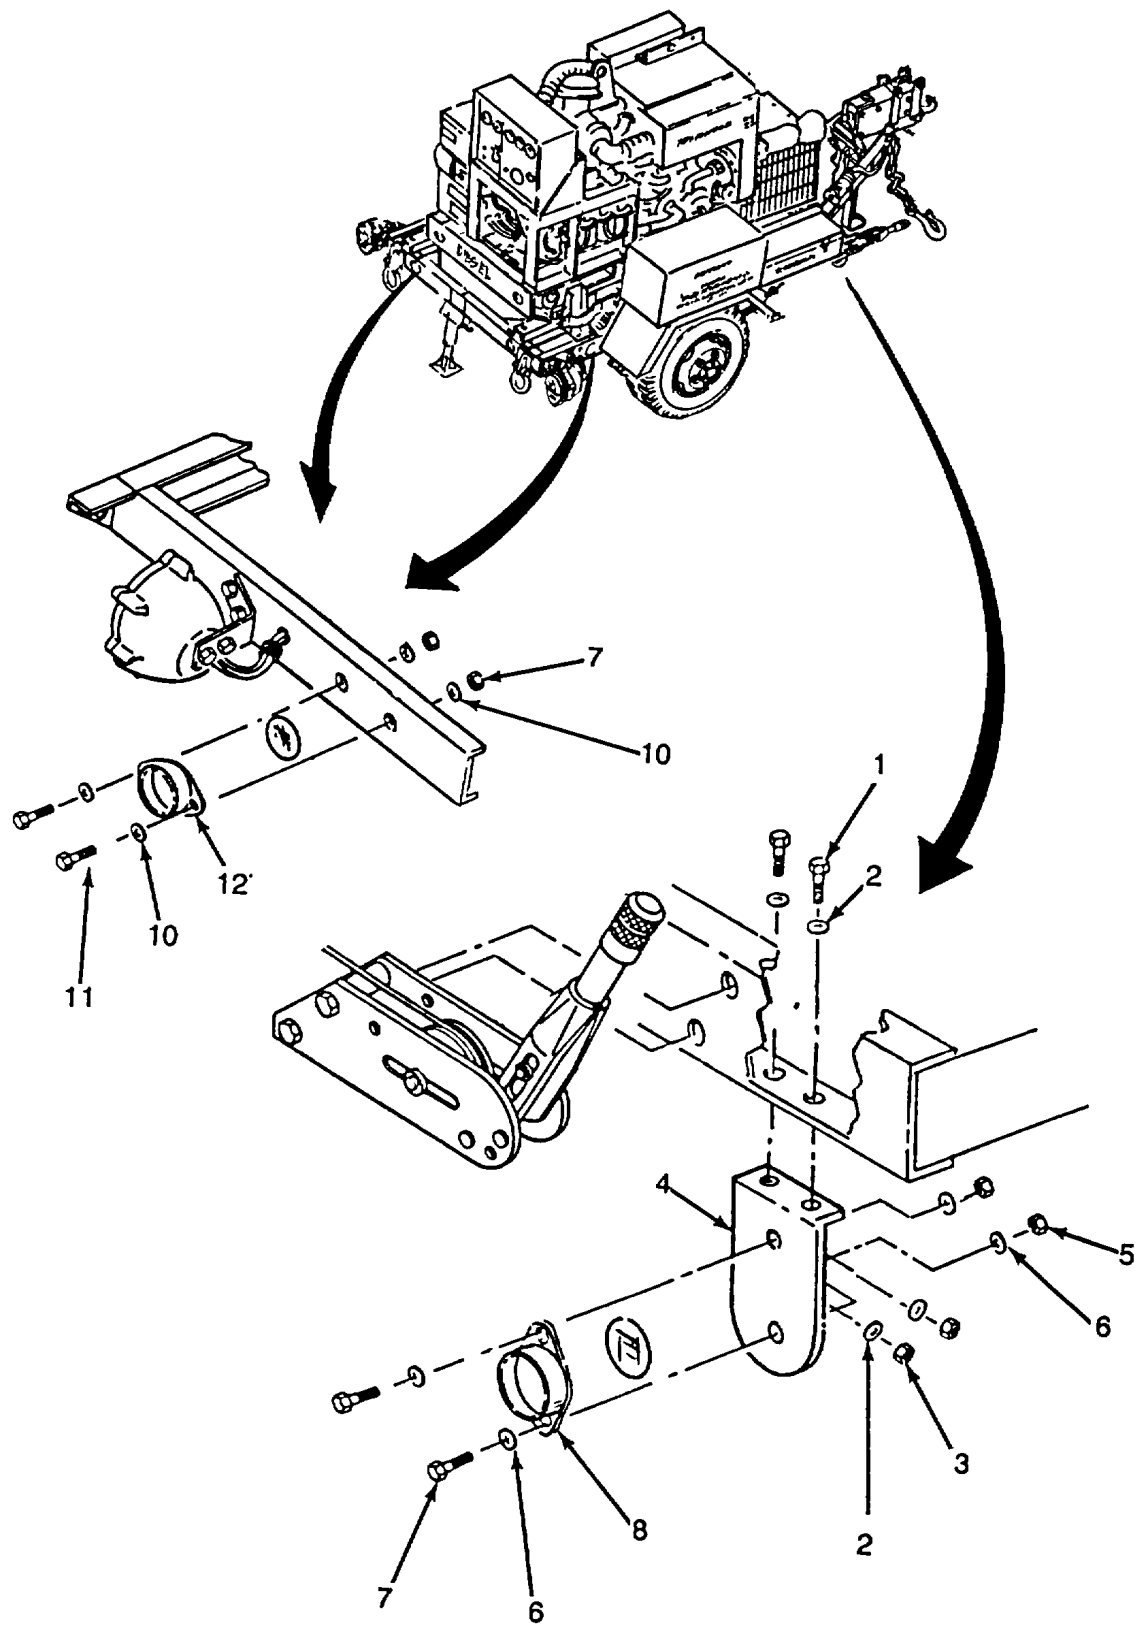

Figure 4-19. Reflector and Bracket.
**4-28. REFLECTOR AND BRACKET (Figure 4-19).**